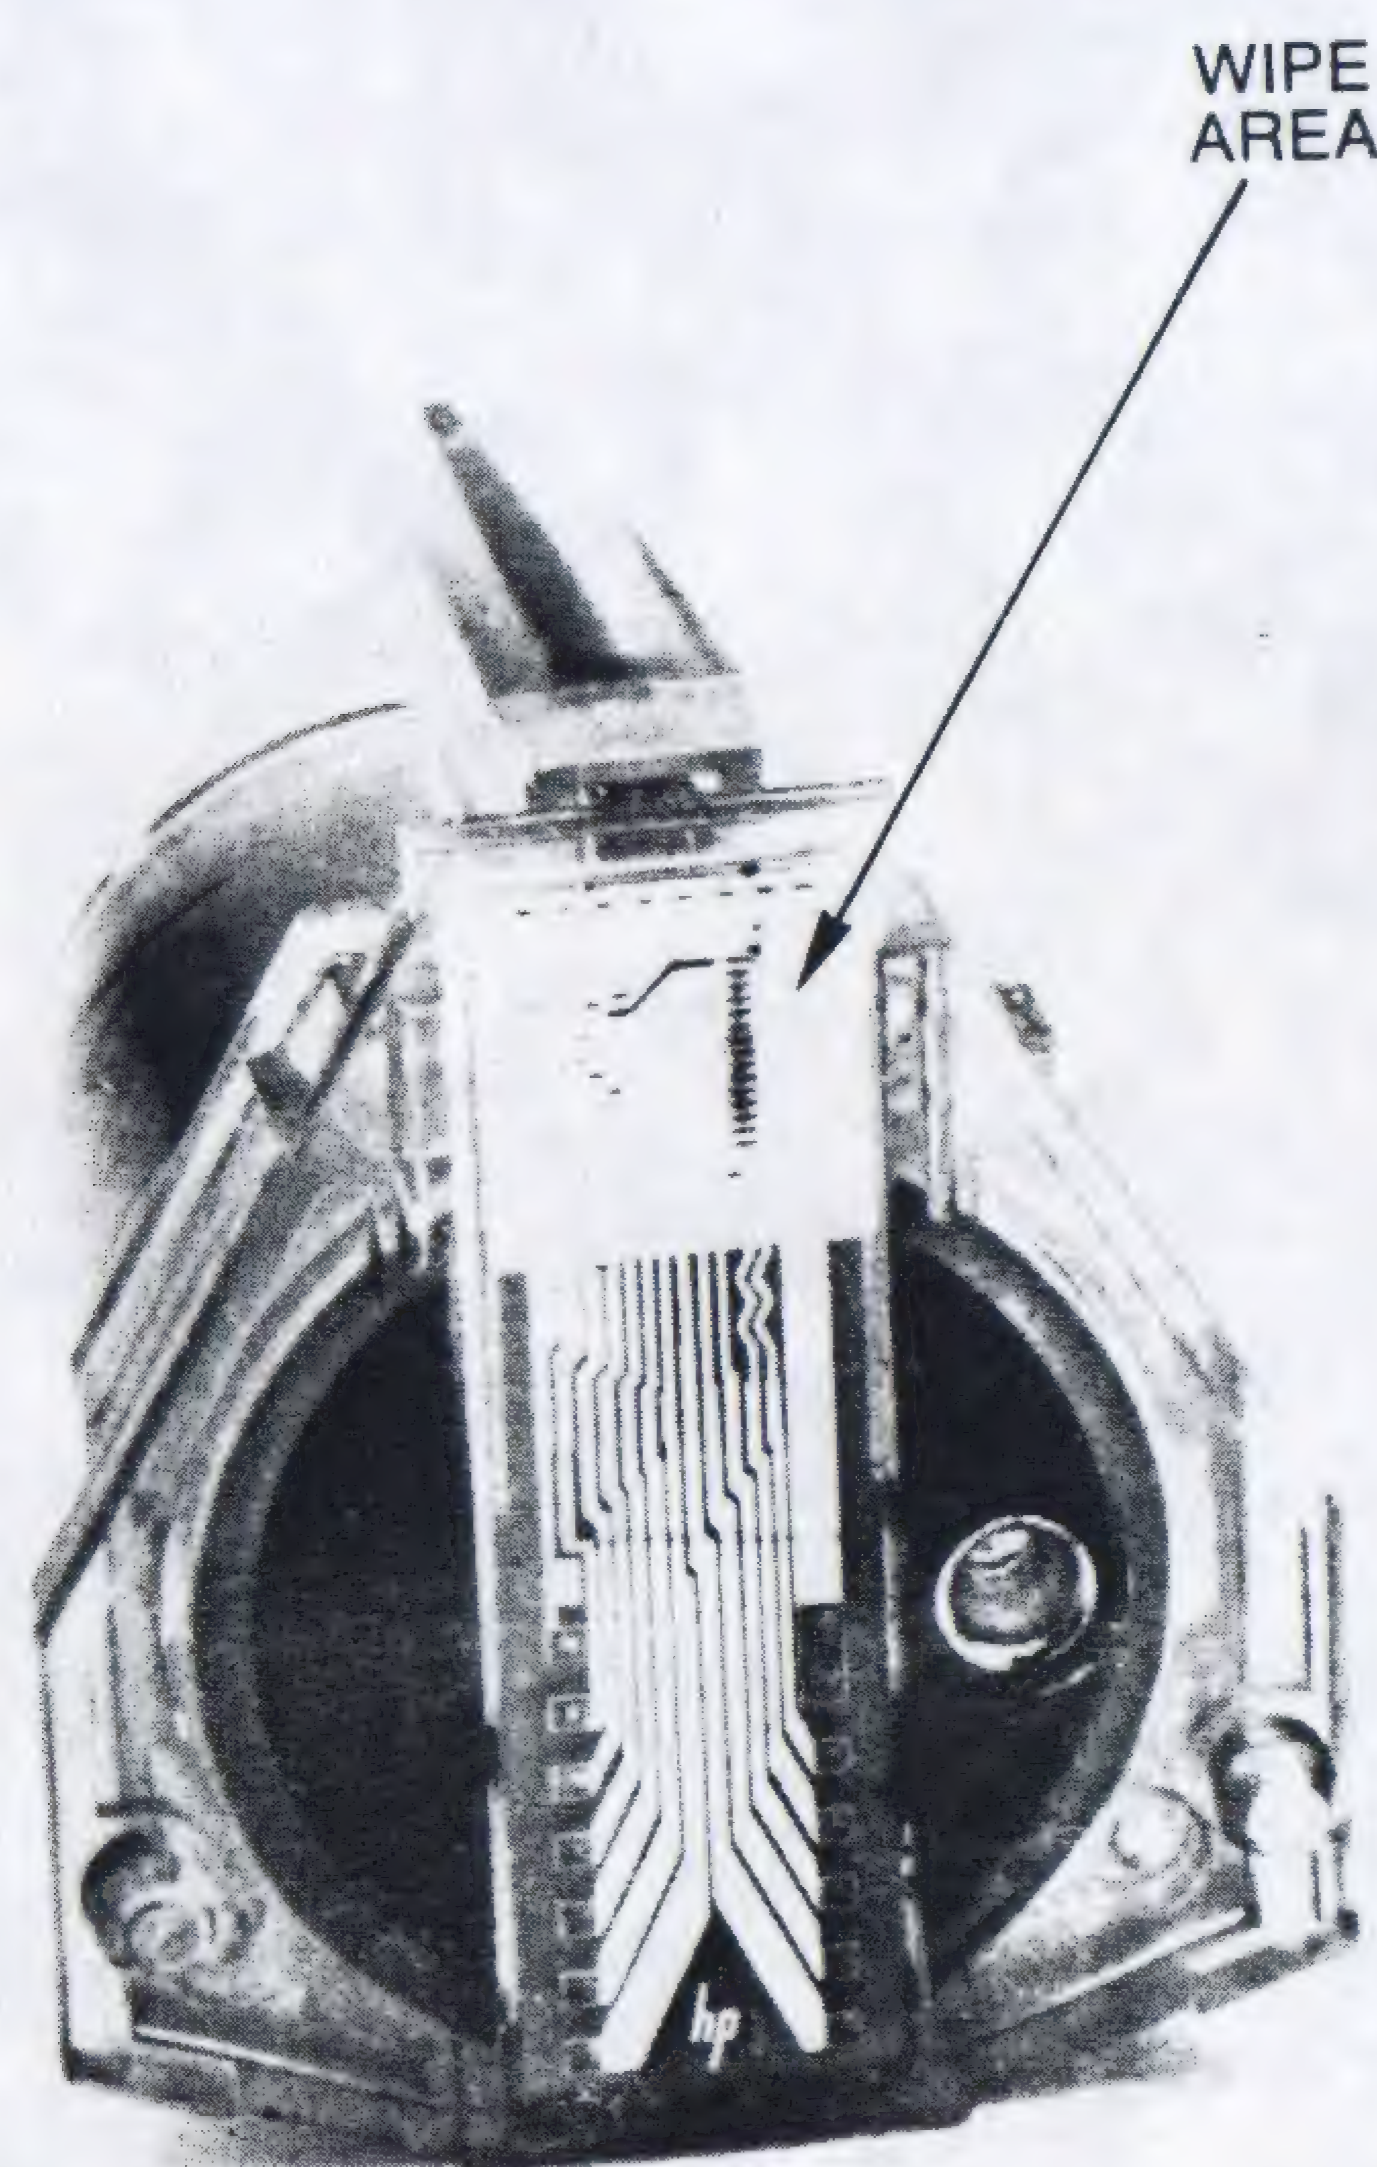

Figure 4-2 Wipe Area
- Wipe the face of the print head using a tissue to remove any accumulated dust (see Figure 4-2). If the print head cartridge has not been used for a prolonged period, moisten the tissue with water before wiping.